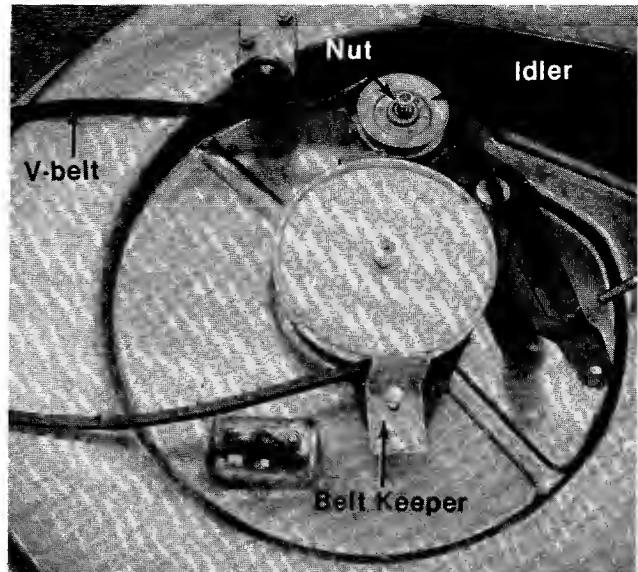

**FIGURE 49.**
- Remove the two shoulder bolts by the engine pulley. See figure 49.
- Remove the two shoulder bolts from the engine pulley. See figure 49.
- Remove the engine belt guard. See figure 49.
- Remove the nut on the V-idler and slide the idler off the bracket. See figure 49.
- Remove the two shoulder bolts by the transmission pulley. See figure 49.